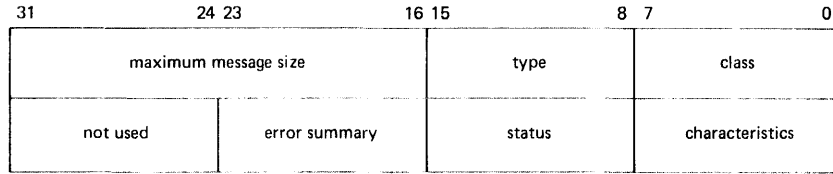

Figure 8-3 P1 Characteristics Block
P1 -- the virtual address of the quadword characteristics buffer block if the characteristics are to be set. If this argument is zero, only the unit status and characteristics are returned in the I/O status block (see Section 8.5). Figure 8-3 shows the P1 characteristics block.
The AST service routine is called with an argument list. The first argument is the current value of the device/function dependent characteristics longword shown in Figure 8-3. The access mode specified by P3 is maximized with the requester's access mode.
P1 -- the virtual address of the quadword characteristics block (Figure 8-3) if modes are to be set after shutdown. P1 is 0 if modes are not to be set after shutdown.
- P1 -- the virtual address of the quadword characteristics block (Figure 8-3) if the characteristics are to be set. Characteristics are set before the device is started.